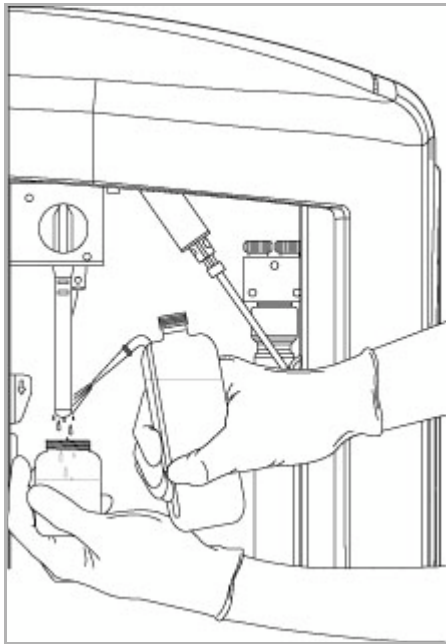

Figure 1.9 Cleaning an Aperture Tube
2. Use a squeeze bottle filled with clean or pre-filtered ISOTON® II to rinse the aperture tube, external electrode, and the stirrer (Figure 1.9, below).